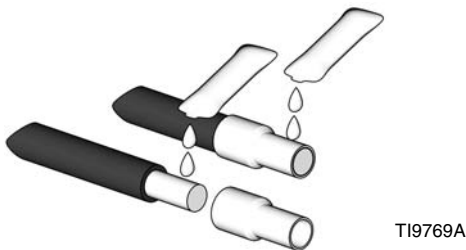

FIG. 8
- c. Remove ferrule and apply oxide inhibitor to bare wire. See FIG. 8.